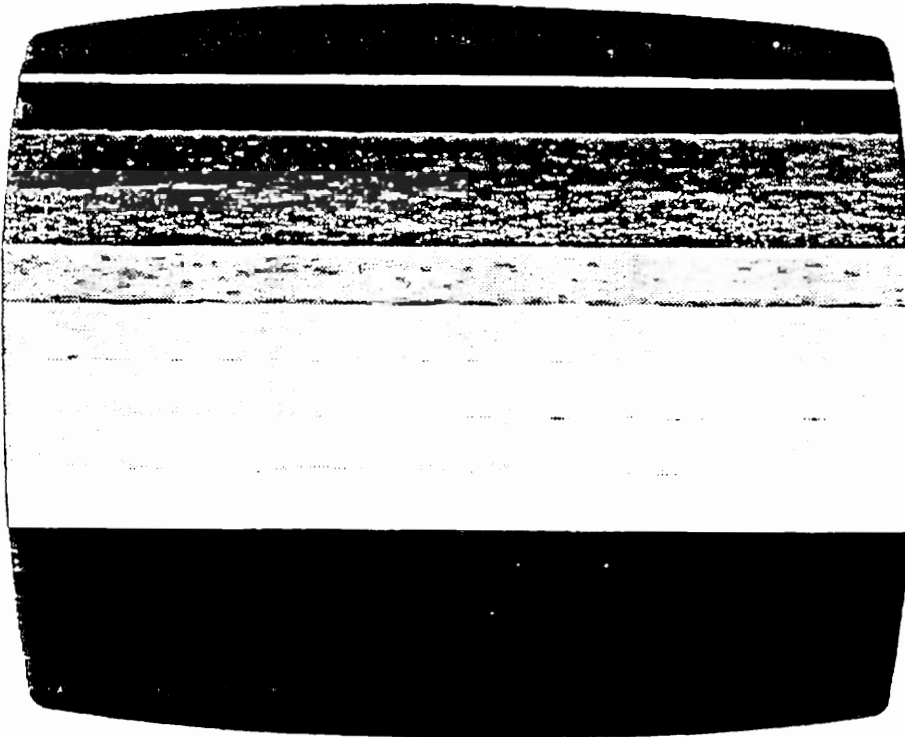

Figure 3-2. Gray Bar Screen
- Format: Eight horizontal gray bars are displayed, going from black at the top to white at the bottom in even steps (see Figure 3-2). The screen should be steady and unchanging. These lines may have minor glitches on their edges. A thin white line always appears just over the top (black) bar. No color should appear anywhere on the screen. The areas above the top (black) bar and below the bottom (white) bar are of no importance to the test. This test should be left on for at least ten seconds to ensure that there is no "flashing" of any color or shifting of the gray bars.